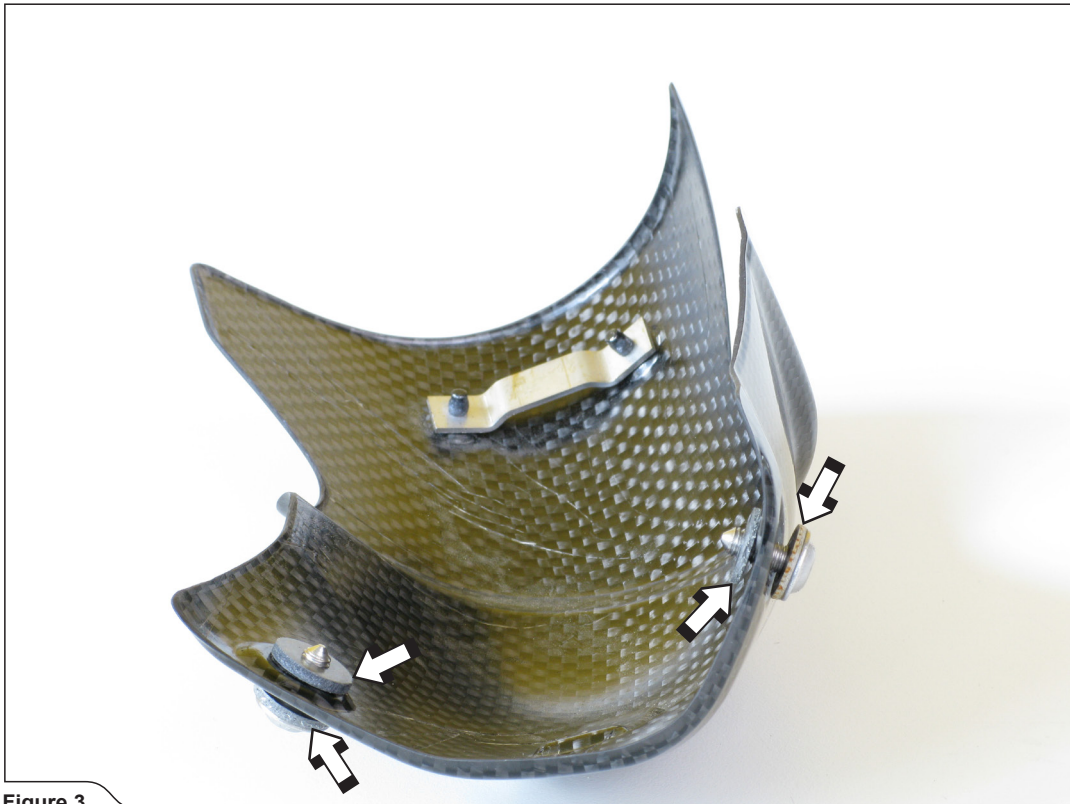

Figure 3
2. Correctly assemble the bolts and heat resistant washers onto the carbon fiber heat-shield, as shown (Figure 3).